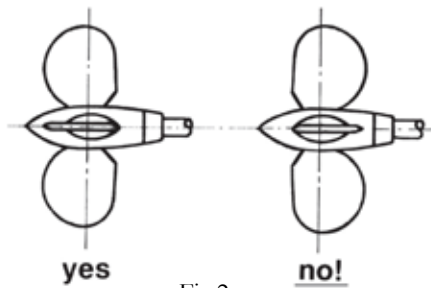

Fig.2
E) Move the blades into the feathered position, making sure that the rounded trailing edges of the blades are aft as shown in Fig. 2
- In the feathered position the blades must be perfectly lined up and set like Fig. 2.